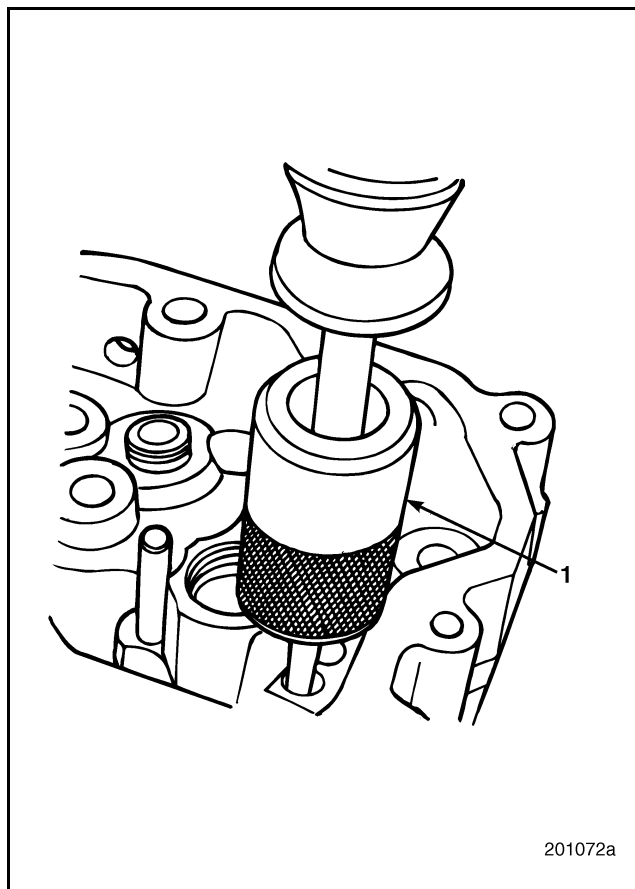

Figure 273 — Valve Yoke Guide Pin Removal
1. Install the extractor over the guide pin and position the lock on the extractor (Figure 273).
5. Using a slide hammer fitted with a 1/4-inch extractor, remove the broken yoke pin from the cylinder head (Figure 273).